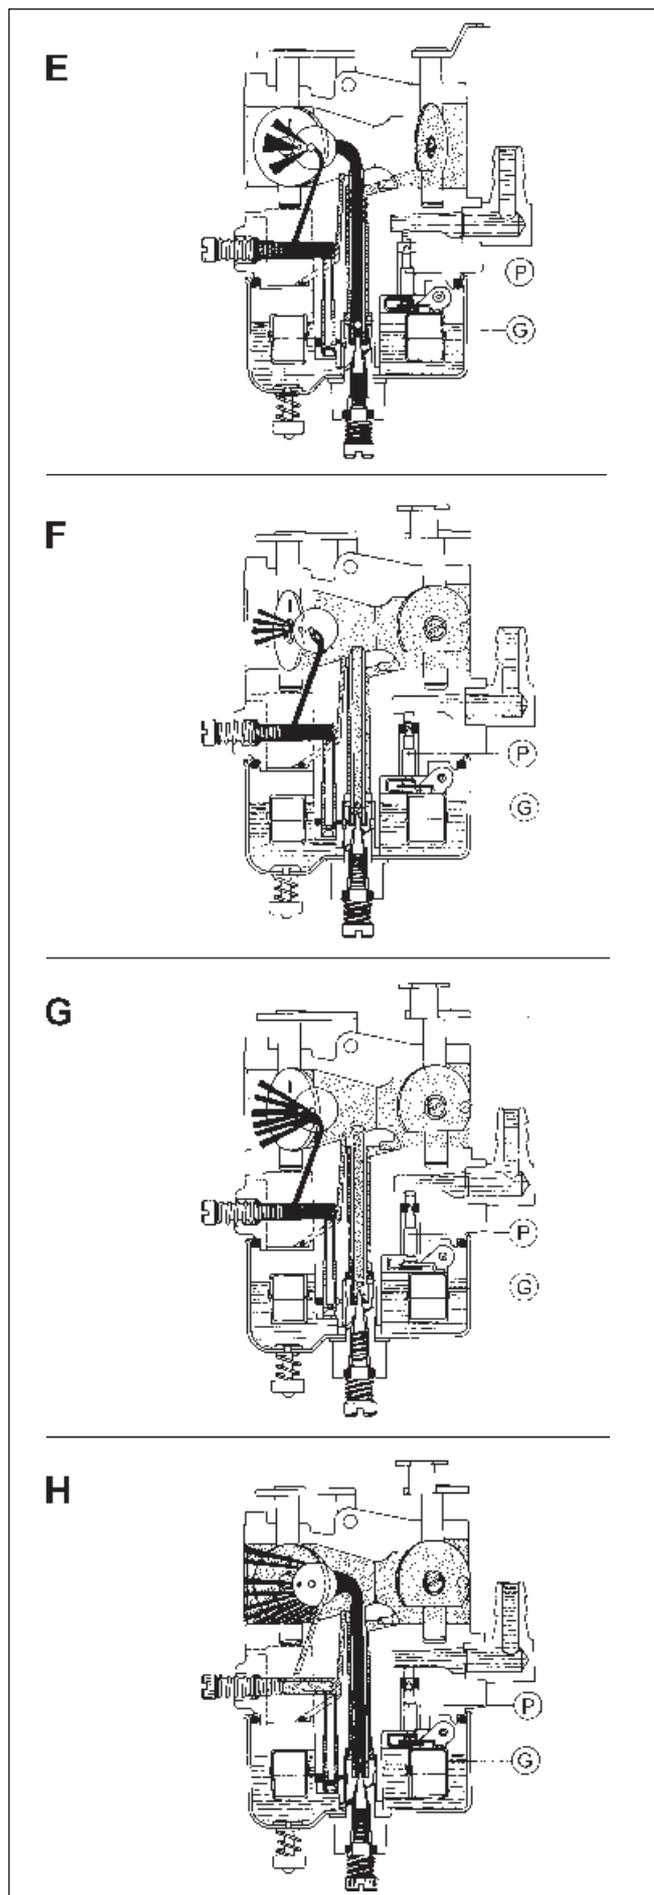

Fig. 2
**FLOAT TYPE CARBURETTOR (FIG. 2)**